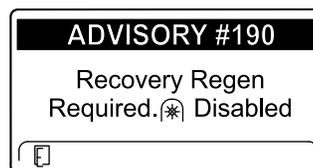

Figure 52
- Recovery regeneration required—power takeoff disabled ADVISORY #190 (Figure 52)